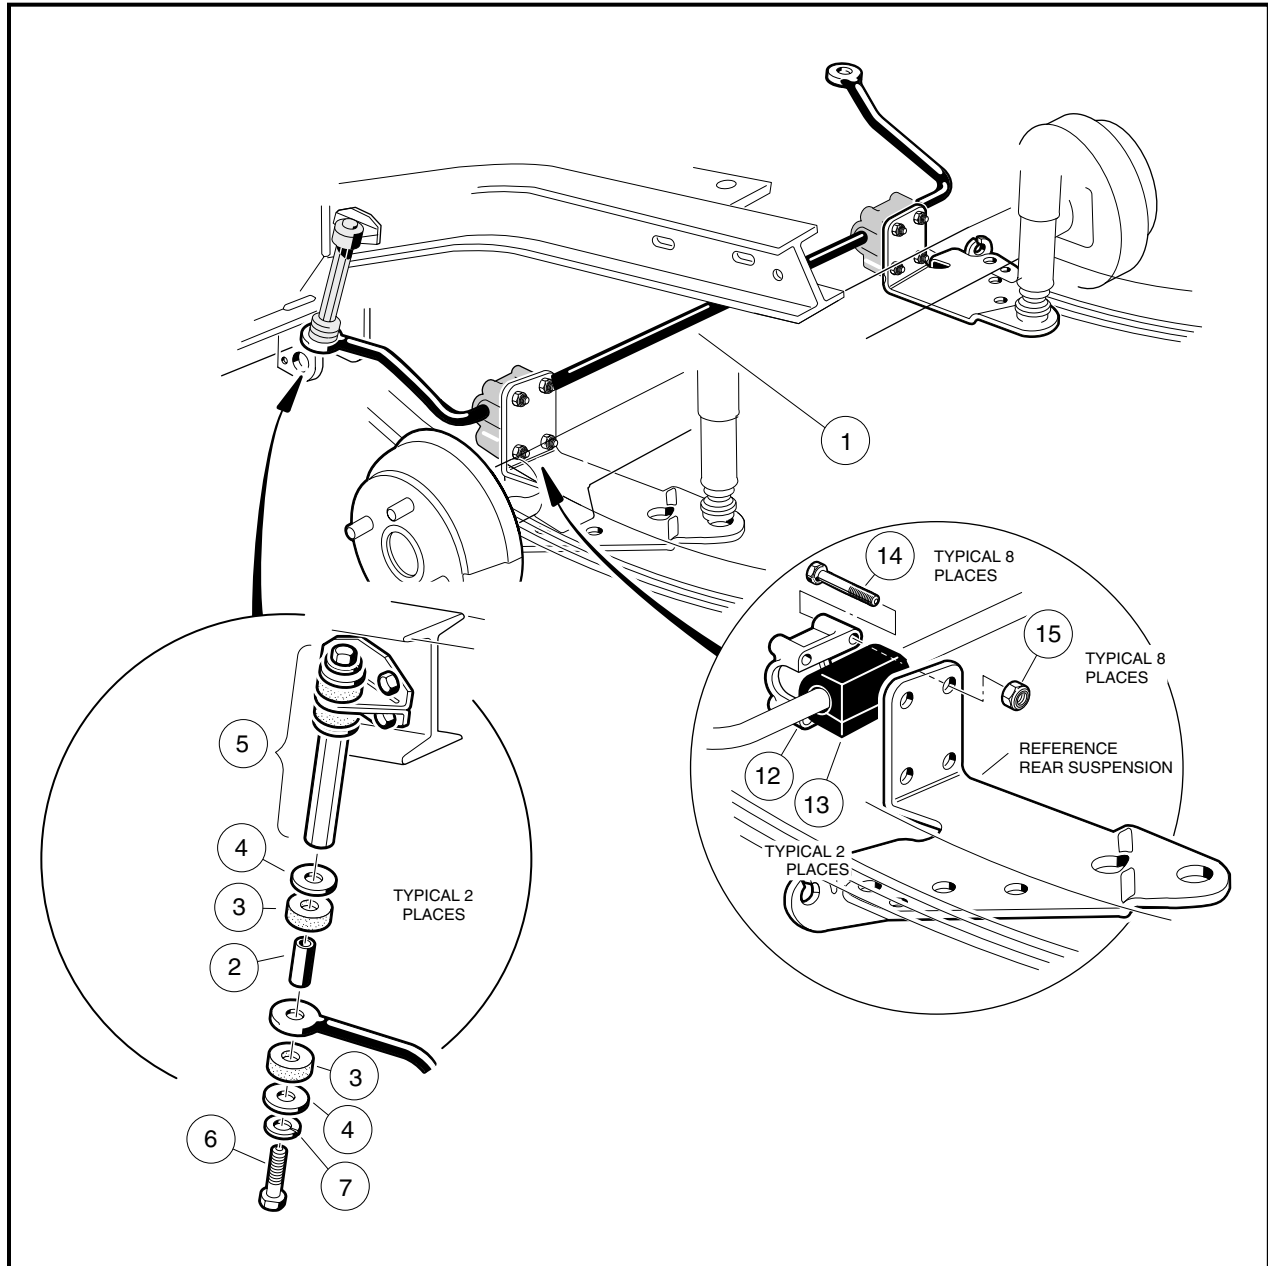

Figure 9-6 Stabilizer Bar
2. Remove bolt (6), lock washer (7), flat washers (4), compression mounts (3), and spacer (2) from left and right stabilizer bar links (5). Do not remove the stabilizer bar links from frame (**Figure 9-6, Page 9-9**).
3. Remove bolts (14) and lock nuts (15) from the left and right stabilizer bar bushing support (12) and remove supports and stabilizer bar (1) from vehicle.
4. Remove bushings (13) from stabilizer bar (1).
1. Position stabilizer bar at the transaxle mounting brackets. Install a bushing (13) onto bar, making sure the bushing is located in the center of the four mounting holes in the bracket (**Figure 9-6, Page 9-9**).
2. Place the bushing support (12) onto the bushing. Install four hex-head bolts (14) through the bushing support and transaxle mounting bracket.
3. Install four lock nuts (15) and tighten to 75 in-lb (8.4 N-m).
5. Place lock washer (7), flat washer (4), spacer (2), and compression mount (3) onto bolt (6). Install bolt through mounting hole in stabilizer bar and place another compression mount (3) and flat washer (4) onto bolt (**Figure 9-6, Page 9-9**).
6. Install the bolt (6) with hardware into the stabilizer bar link (5) and finger-tighten.
8. Tighten bolts (6) in the stabilizer bar links (5) to 17 ft-lb (23 N·m).